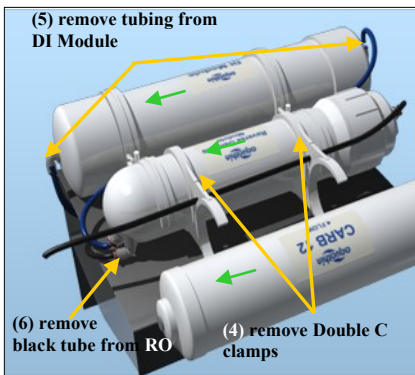

Figure 18: Steps 4-6
3. With the CARB 12 free of its connections, it can now be removed from the two “Double C” clamps holding it to the RO Module. **Note the direction of the “FLOW” arrow. You will need to install the new CARB 12 pre-filter in the same orientation.** Refer to Figure 18 for steps 4—6.